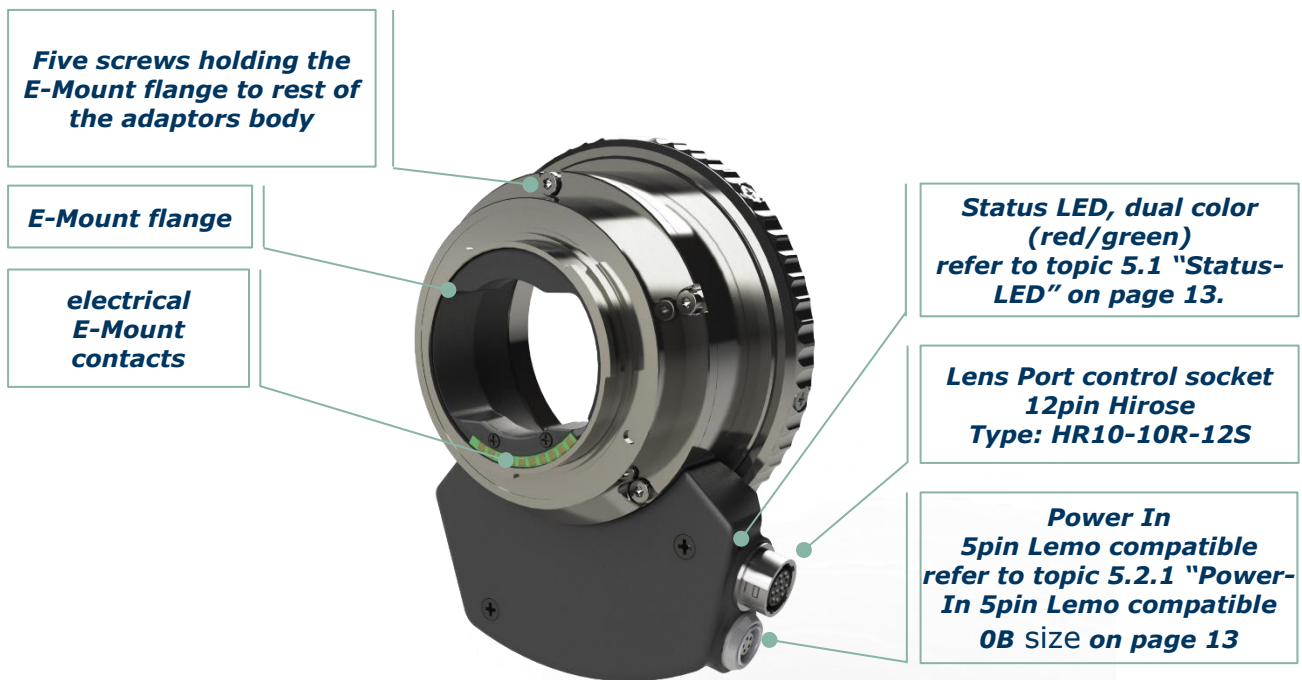

Figure 1
2. Open the five screws (Allen-key 2mm) holding the E-Mount flange to the rest of the adaptors body (refer to Figure 1 on page 9Figure 1 above).